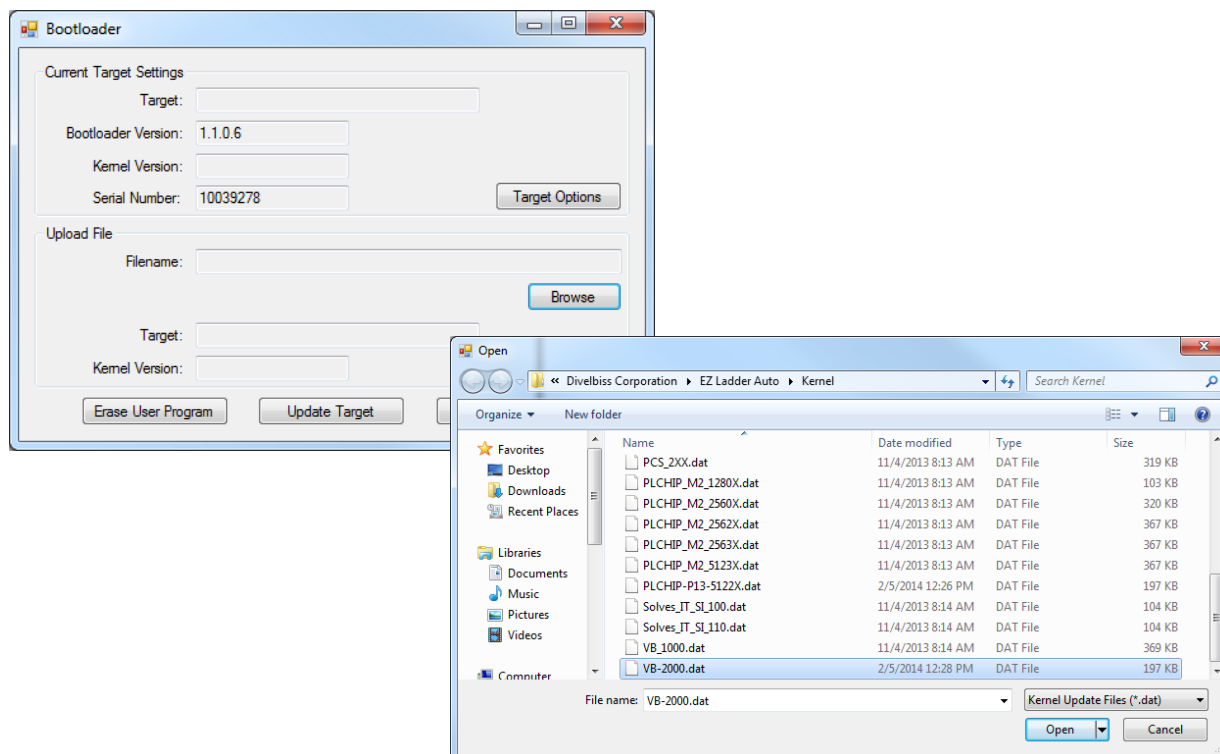

Figure 1-3 - Browse to Kernel
7. Click the **BROWSE** button and select the target's kernel (by partnumber) located by default at C:\Program Files\EZ Ladder\Kernel\. Refer to Figure 1-3.